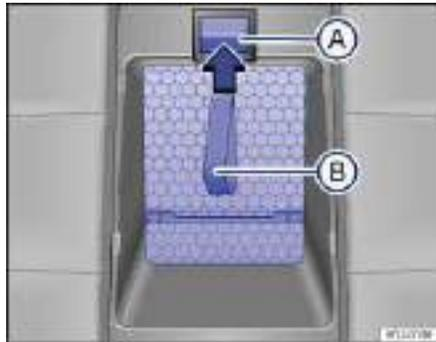

Fig. 100 From the passenger compartment: Opening the pass-through panel into the luggage compartment.
- Push up the inside release lever ⇒ fig. 100 \(A\) in the direction of the arrow and fold the pass-through panel backwards into the luggage compartment.